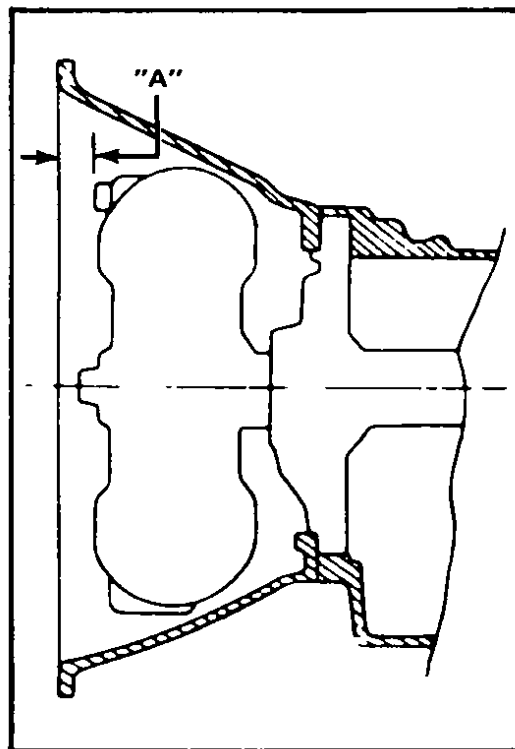

Fig 144 Installing torque converter
- 2 When connecting the torque converter to the transmission, be sure distance "A" Fig 144 is the same as measured during disassembly